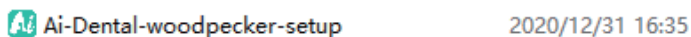

Figure 2
a) Double-click the installation program, as shown in Figure 2: